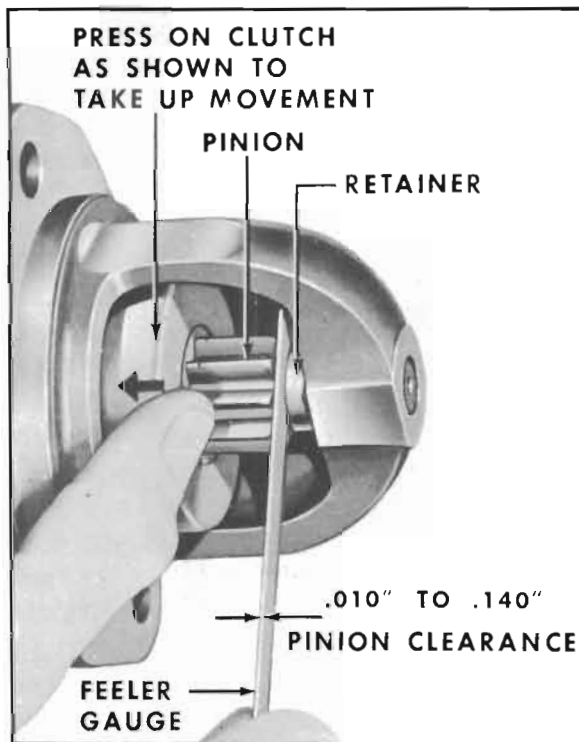

Figure 10-31—Checking Pinion Clearance
2. After energizing the solenoid, push the pinion away from the stop retainer, as far as possible and use feeler gauge to check clearance between pinion and retainer. See figure 10-31.